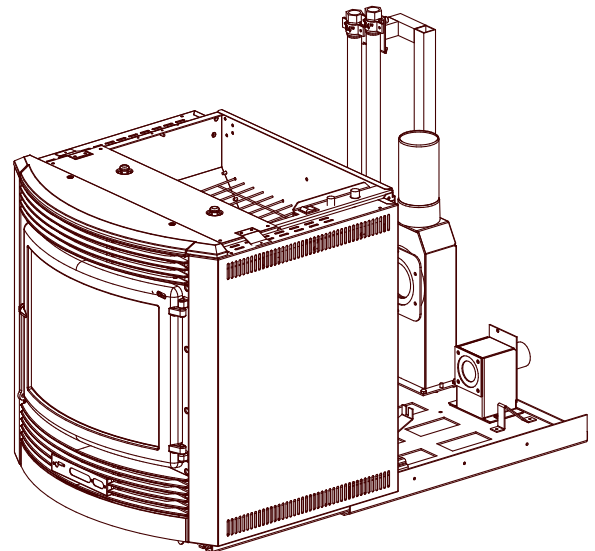

figure 6.5
Slide the insert out (figure 6.5).
- ❖ Slide the insert out (figure 6.5).